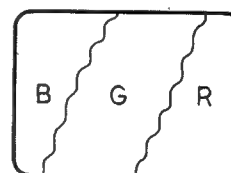

Fig. 3-2.
6. Pull off the pin-plugs of the red and blue leads on the T board. The screen should appear as shown in Fig. 3-2.